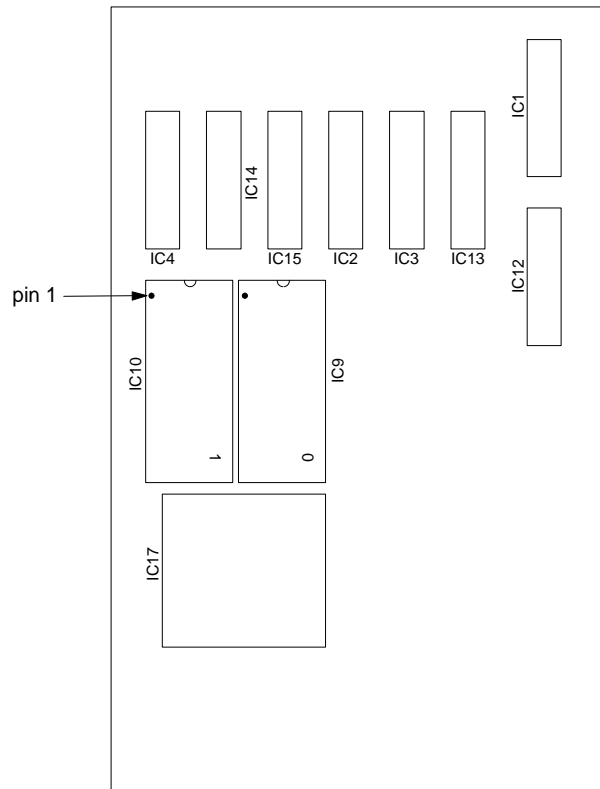

Figure 2: PC Expansion PCB
- Locate IC9 and IC10 on the PC Expansion PCB (see Figure 2).